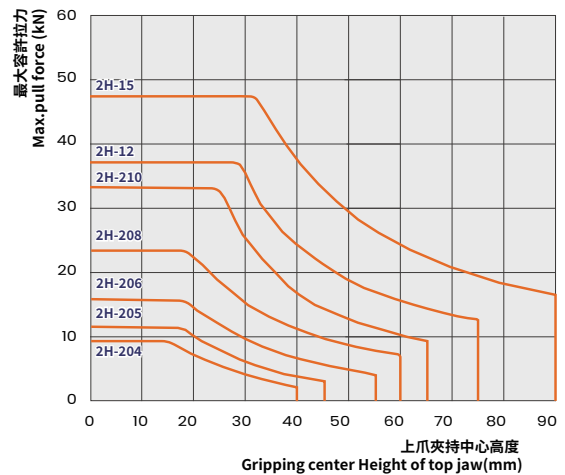

Fig.6
- 使用加高型的上爪時，會對上爪連結螺絲、主爪及其他的零件產生過大的作用力，而使夾頭受損，因此，必須降低油壓缸的入力。規格表內所列的最大容許拉力是依據標準高度的上爪，如果使用加高型的上爪，必須依照下列的曲線圖來設定拉力值。(參考Fig.6)
- When using the extra-height top jaws, excessive force will be applied to the top jaw mounting bolts, master jaws, and other parts, causing damage to the chuck. As a result, the hydraulic cylinder's input force must be lowered. The max. pull force indicated in the specification table is based on the standard height top jaws. When using the extra-height top jaws, the pull force must be set according to the following charts specified. (Refer to Fig.6)